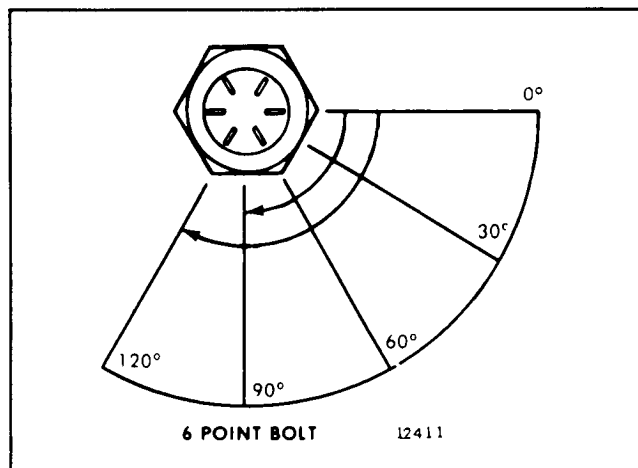

Fig. 2 - Torque-Turn Limits
10. Turn the bolts an additional 90° - 120° (Fig. 2) to obtain the required clamping.